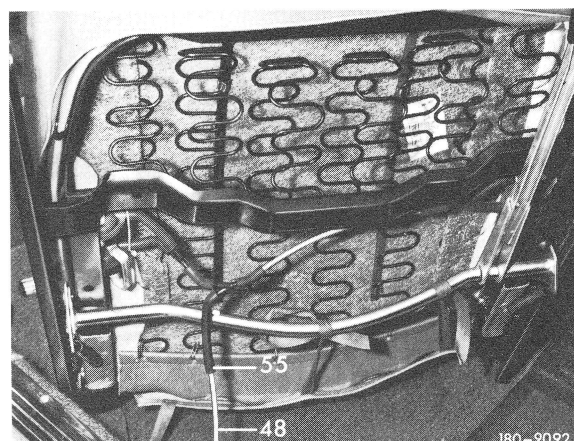

Fig. 2
Separate blue vacuum line (48) from hose line (55) (Fig. 2).